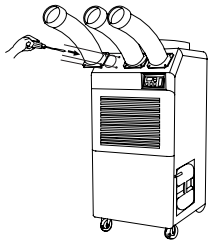

Figure 24
3. Use screws (enclosed inside of box with cool air outlet hose(s)) to install the cool air outlet hose(s) on the air conditioner as shown in Figure 24.